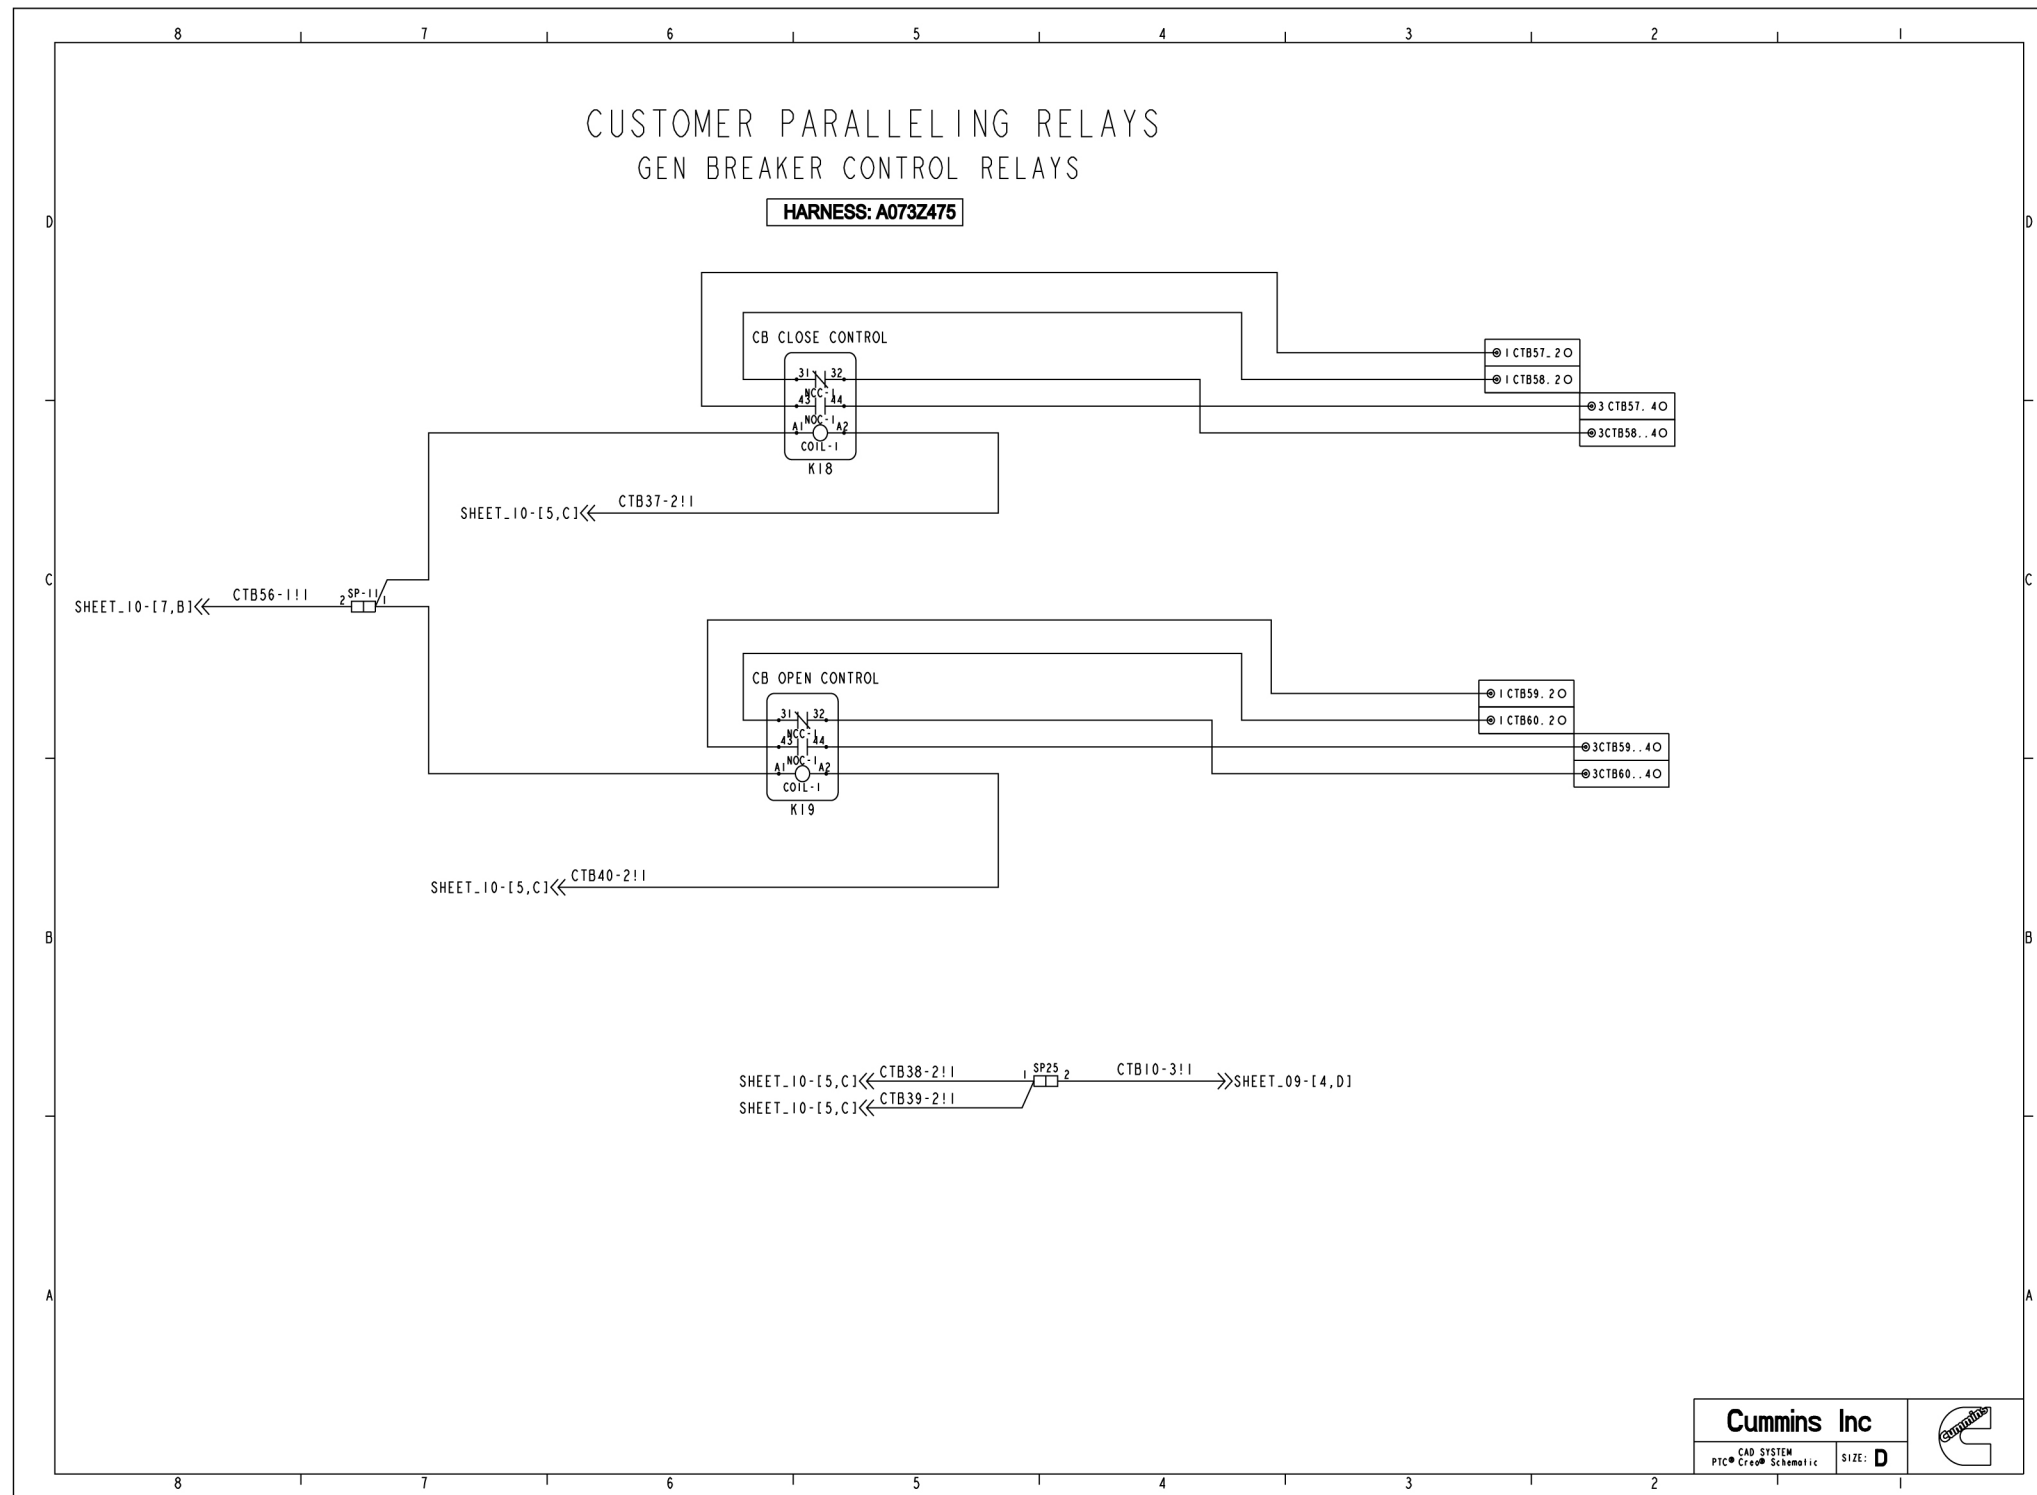

FIGURE 98. WIRING SCHEMATIC (SHEET 14)
- Figure 98. Wiring Schematic (Sheet 14) 402